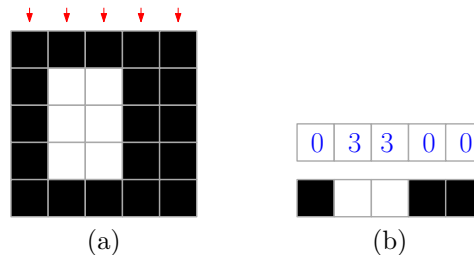

FIGURE 1
2.1. Sinogram. Consider the 5×5 pixel image shown in Fig. 1(a). (Please ignore that the object is a box and no hexagon.) Now, we count vertically the number of white pixels along each vertical line. The values are shown in the top row of Fig. 1(b). One can also view these as gray values, the corresponding colors are shown in the bottom row of Fig. 1(b). So, these values (or if you want, these gray values) are the tomographic information that we obtain from X-ray measurements taken from the object rotated by 0° . Now, rotate the object (you can obtain this by calculating the pixel coordinates of the object multiplied with the corresponding rotation matrix and by inserting them - rounded - into a new blank image). For this new angle, we get again 5 numerical values (or gray values). Suppose, we do this now for all angles from 0° to 179° in steps of 1° . What we obtain is a 180×10 matrix (containing the numerical values or gray levels). This matrix is the sinogram. And from this matrix it can be possible to reconstruct the object.